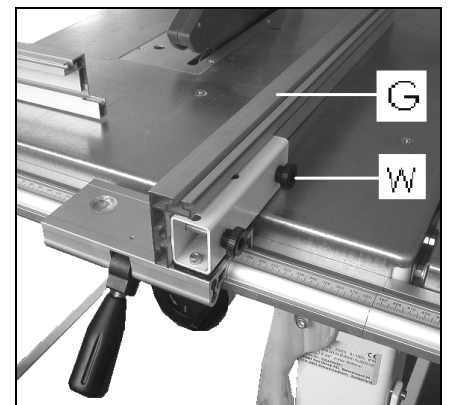

Fig 19
Use 2 bots and wing nuts (W, Fig 19) to attach the aluminium profile (G) to the rip fence body
-Use in upright position (Fig 19) for cutting wide stock: